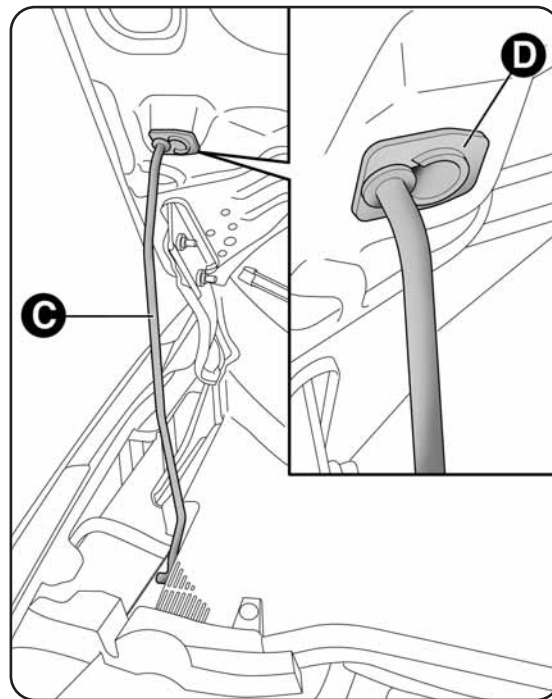

fig. 67
- raise the bonnet and simultaneously free support rod C-fig. 67 from its clip and insert the end into housing D.
- hold the bonnet up with one hand and with the other remove rod C-fig. 67 from housing D and fit it back into its catch;